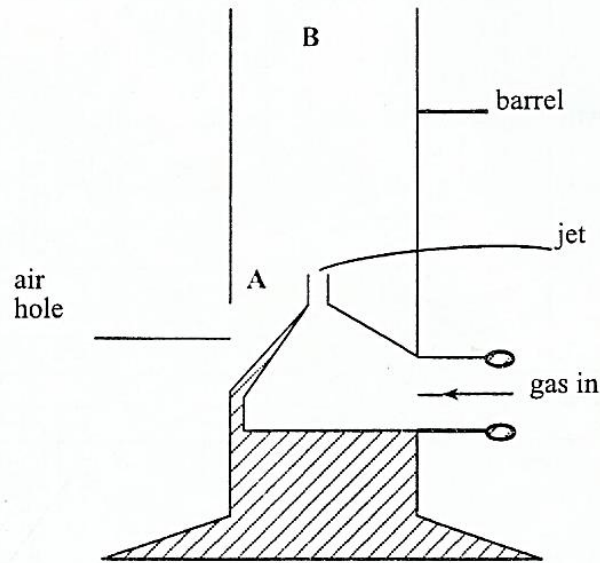

Fig. 3.1
- (ii) A Bunsen burner shown in Fig. 3.1 is commonly used in school science laboratories for heating.